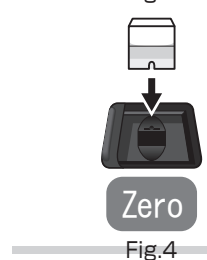

Fig.4
6. Lightly shake the tube in Step 5 from 5 to 6 times, return the solution in the tube to the Cell in a gentle manner, set it again in the cell box. (Fig.4)
6. Lightly shake the tube in Step 5 about 10 times. (Fig.4)
4. Put the Cell in the cell box and press **[Zero]**. (Fig.4)
6. Shake the tube in Step 5 about 10 times. (Fig.4)